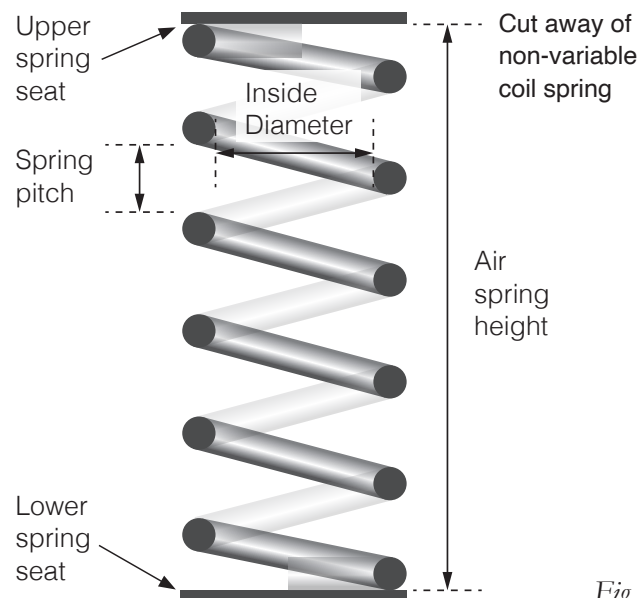

Fig. 2
2. Measure from whatever the air spring cylinder, once installed, will touch at the top and the bottom of the spring seats (Fig. 2). This is the length of the air spring required for this application.
10. Air pressure in the system will depend on the pitch of the stock coil spring (Fig. 2). Pitch is the gap or distance between the coils. Some springs have a "variable" rate in which the gap or distance between the coil springs will vary. For these springs, it is recommended to measure the largest opening and use this as the guide to choose what pressure to use.